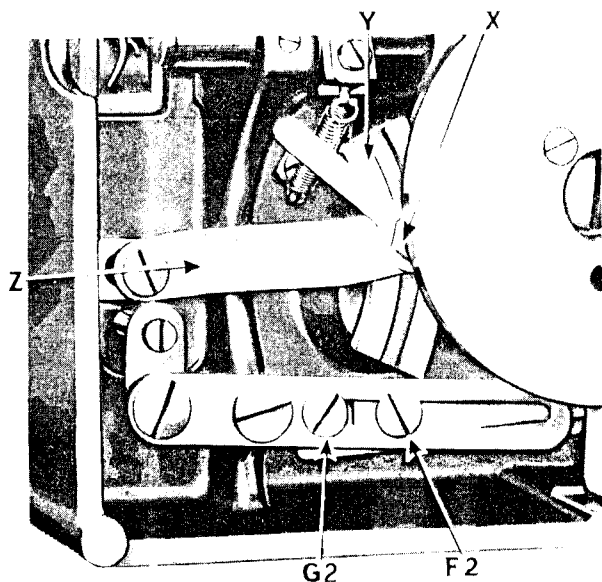

Fig. 9. Adjust for Greater or Less Distance Between Holes in the Buttons
(b) Using the special wrench attached to the machine, loosen the nut (X, Fig. 9) at the end of the vibrating arm (Z, Fig. 9). Move the vibrating arm (Z) upward for holes which are wider apart, or move the arm (Z) downward for holes which are closer together, then tighten the nut (X).
TO SEW FOUR-HOLE BUTTONS, move the adjusting handle (Q, Fig. 9) to the extreme left to the four-hole button pictured on the ma-
Lay the machine back on its hinges as instructed on page 6. Loosen stop screw (G2, Fig. 9) and move it against the screw (F2), then tighten the screw (G2). Then move the handle (Q) over to the two-hole button on the machine bed for sewing the two-hole buttons. To return to the same size four-hole buttons as before, move the handle (Q) back toward four-hole button on the machine bed until the handle (Q) is stopped by the cross-over stitch setting.